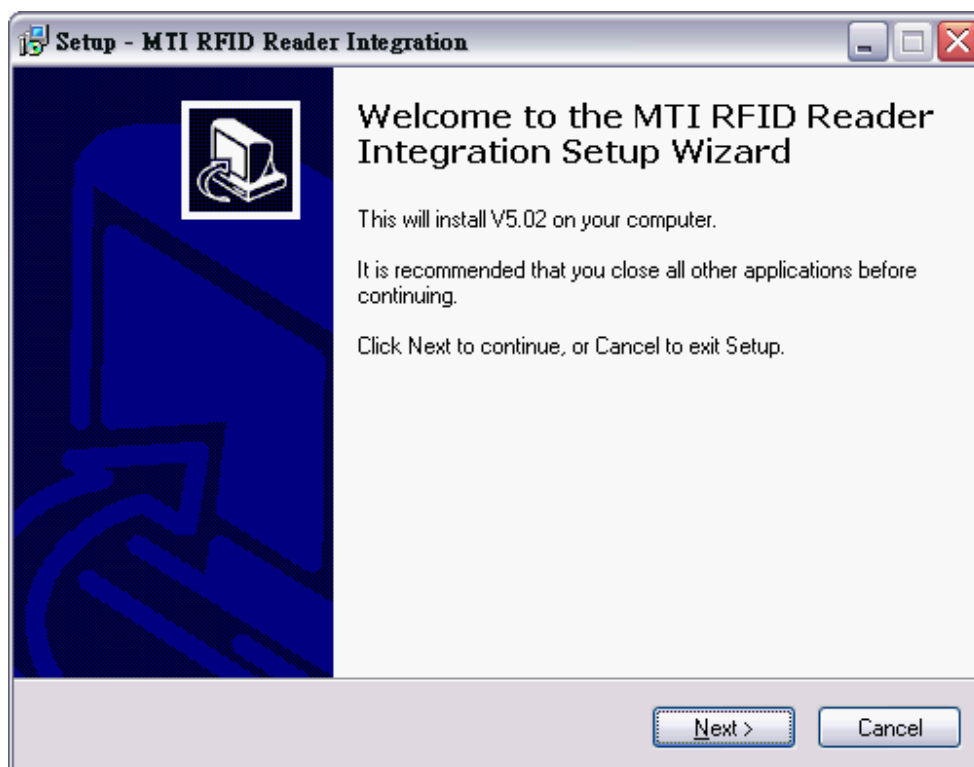

Fig. 2 Start the setup wizard.
Step 1: Run 'RFIDINT-502-MTI.exe' to setup the program on your Windows. Please click "Next" button to continue the setup wizard, shown in Fig. 2